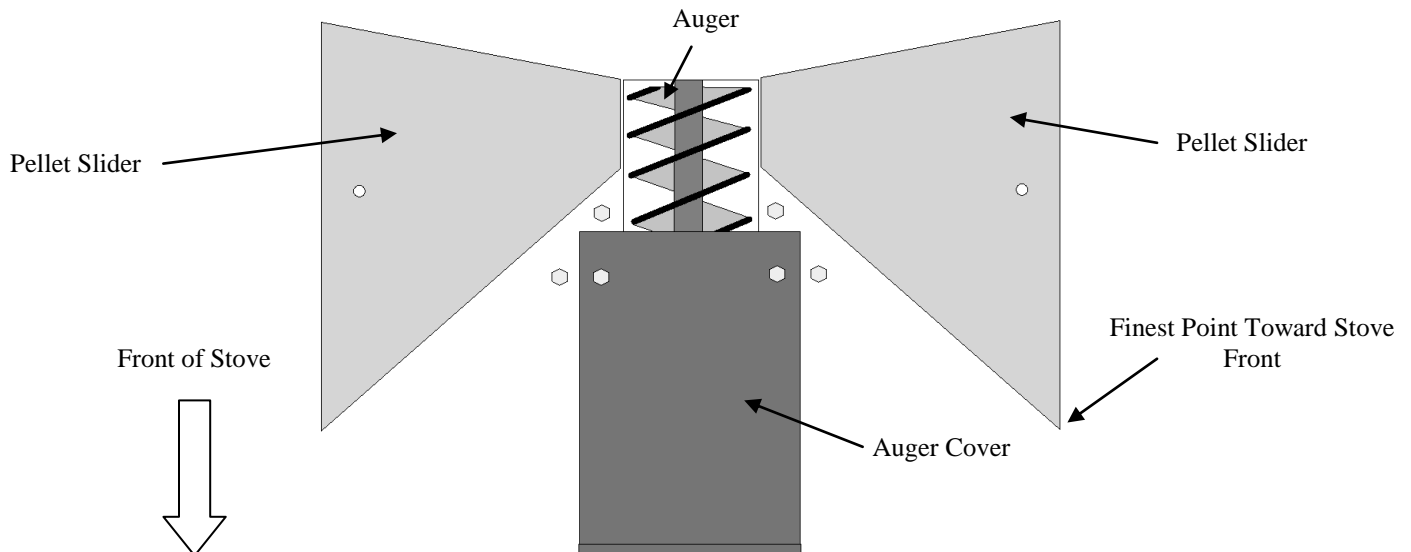

Figure 1 – Top View of Hopper: Desired Pellet Slider Positioning
5. Grasp the Slider from the short side with two fingers as shown in Figure 5. The longest side of the Slider will face the front of the stove when installed (See Figure 1). Approach the stove from the front and begin on the hopper side that that will allow you to position your hand over the auger while situating the Slider appropriately on the hopper bottom.